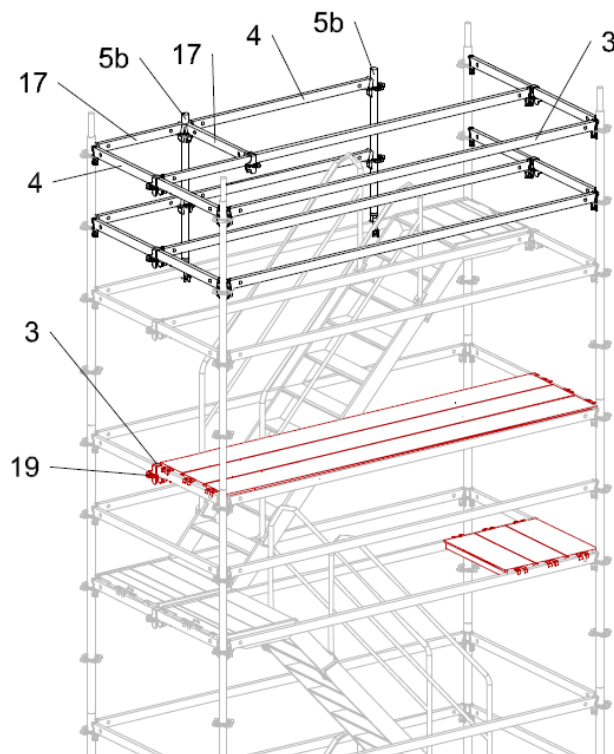

Fig.A7-1
Reposition Steel Decks UDG 300 (9) and UDG 75 (16) to position shown. (Fig. A7-1)